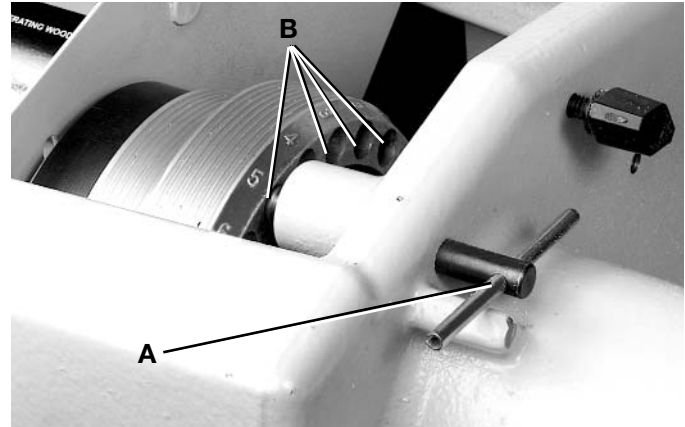

Fig. 23C
NOTE: To lock the spindle or to utilize the indexing feature, pull the spindle lock pin (A) Fig. 23C out and rotate the pin clockwise. Re-engage it in the pulley holes (B) Fig. 23C, some of which are shown. The spindle pulley has 24 holes accurately spaced around the rim of the pulley. This feature makes it possible to make evenly spaced divisions on turnings which could be fluted, grooved, or have holes drilled at these points.